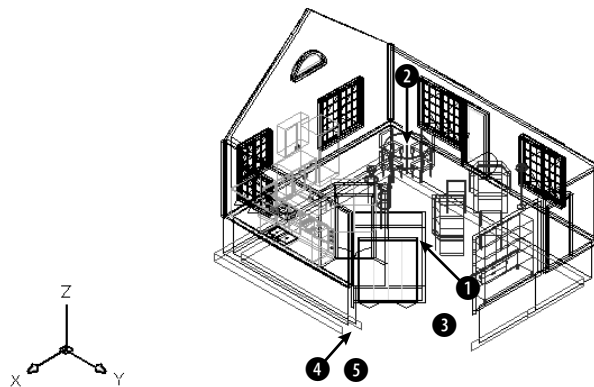

Figure 22-34: The NE isometric view of the house.
4. Choose View ⇨ 3D Views ⇨ NE Isometric. The result is as shown in Figure 22-34. This is a quick approximation and helps you plan your camera and target points. To test for endpoints, start the LINE command. Place the cursor at ❶ in Figure 22-34. The Endpoint SnapTip and marker appear. Place the cursor at ❷, the top of the table leg. You should see the Endpoint SnapTip and marker. Press Esc to cancel the LINE command without drawing a line.
6. At the main DVIEW prompt, right-click and choose Points. At the Specify target point <14'-5 15/16", 21'-9 3/8", 6'-1 1/4">: prompt, pick the endpoint at ❷ in Figure 22-34. At the Specify camera point <14'-6 15/16", 21'-10 3/8", 6'-2 1/4">: prompt, pick the endpoint at ❶.
8. To move the camera point, right-click and choose Camera. At the Specify camera location, or enter angle from XY plane, or [Toggle (angle in)] <11.7252>: prompt, type **8** ↵ to lower the camera point slightly. At the Specify camera location, or enter angle in XY plane from X axis, or [Toggle (angle from)] <11.72523>: prompt, move the cursor close to **3** in Figure 22-34, relative to the screen, not the model, and click.
11. Right-click and choose Pan. At the Specify displacement base point: prompt, pick **4** in Figure 22-34, relative to the screen not the drawing. At the Specify second point: prompt, pick **5** relative to the screen. The display moves down.